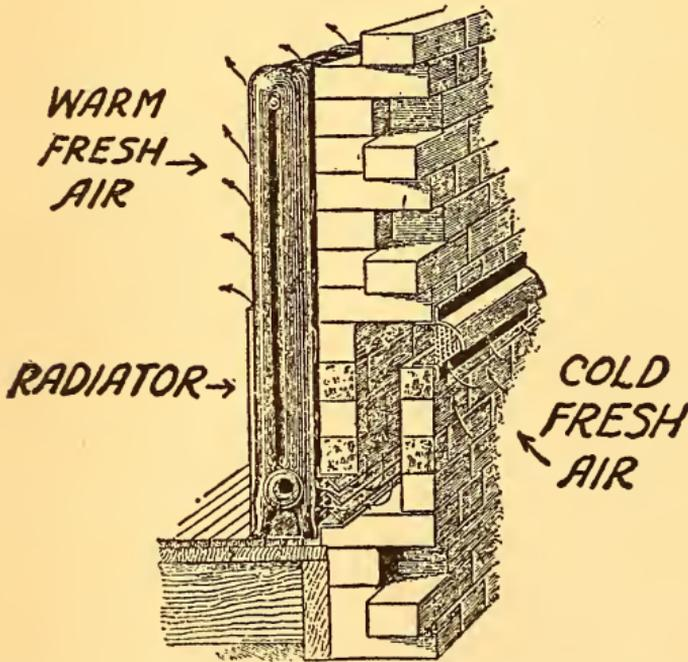

FIG. 7. THE RIGHT WAY TO VENTILATE A HOUSE
**The Best Kind of Ventilation.**—The best scheme for heating a house as far as ventilation goes is a hot air furnace because fresh air is brought from the outside, heated and then circulated in the rooms. Where hot water or steam heating systems are used, the right way to ventilate is to build air ducts into the walls as shown in Fig. 7.